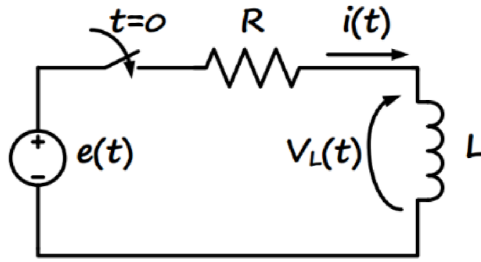

Figure 5: RL circuit with DC voltage source and switch
Discretize the circuit in Figure 5 and write a MATLAB code to solve the circuit step-by-step using the two discretization rules: a) Backward Euler, b) Trapezoidal, each with time-step sizes  $\Delta t = 0.1$  ms and  $\Delta t = 0.8$  ms.
**Note on Circuit and Equations:** The circuit topology in Figure 5 is identical for both Backward Euler and Trapezoidal discretization methods - only the companion model parameters ( $R_L$ ,  $e_h$ ,  $i_h$ ) differ between the two methods. The state variable trajectory generating (SVTG) equations derived from KVL are also identical for both methods, as shown below. Unlike Question A.1 where symbolic step-by-step tables were feasible, the expressions here become algebraically complex due to the resistor-inductor interaction. Therefore, I present only the generating equations and proceed directly to numerical MATLAB trajectory generation.
#### Trapezoidal: State Variables at Time $t$ for Figure 5
### Backward Euler: State Variables at Time $t$ for Figure 5
Figure 9: MATLAB implementation of Figure 5 for Trapezoidal and Backward Euler methods at  $h = 0.1 \text{ ms}$  and  $h = 0.8 \text{ ms}$ . Markers indicate all computed time steps.